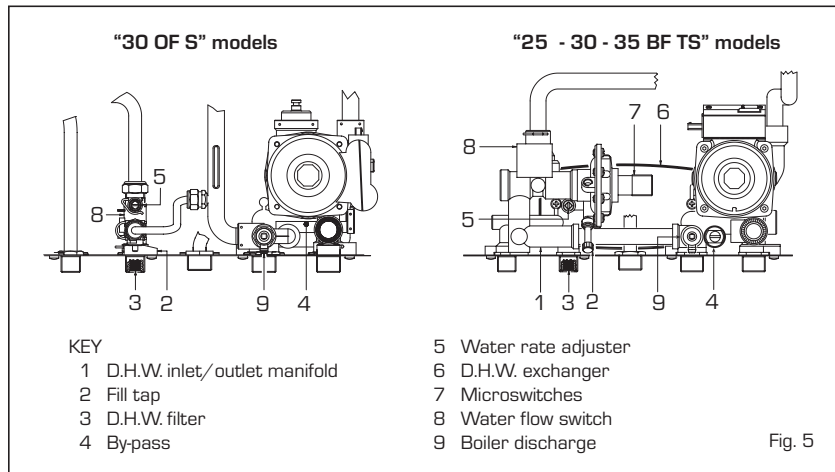

Fig. 5
2.5 SYSTEM FILLING (fig. 5)
2.5.1 Emptying the system (fig. 5)